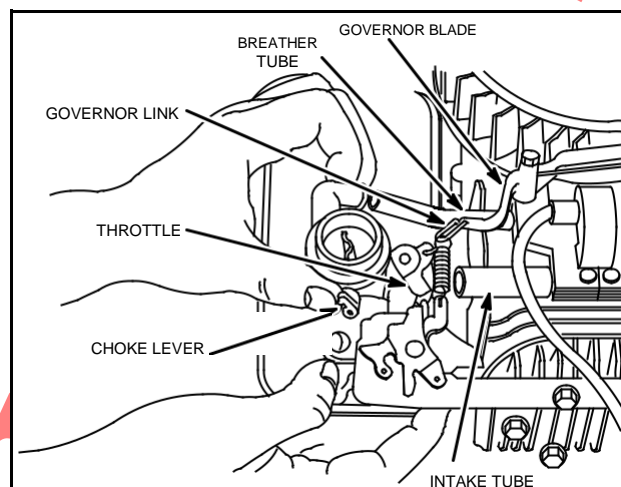

Fig. 249 - INSTALL CARBURETOR AND TANK ASSEMBLY
- Hold choke lever as shown in Fig. 249, so it does not catch on control plate.